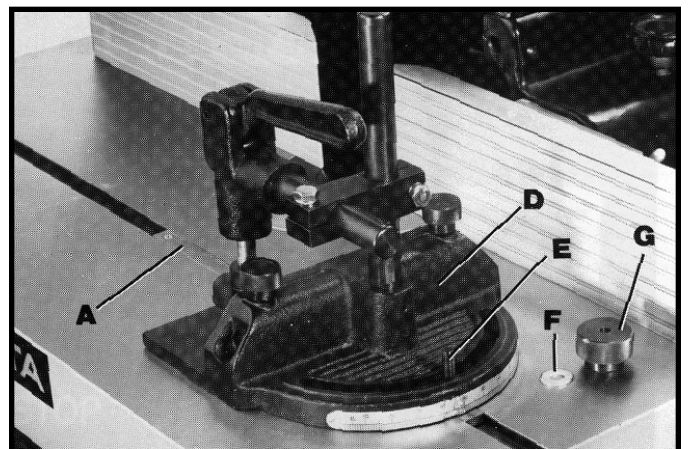

Fig. 46
2. Figure 46 illustrates the miter gage bar (A) in the table slot. Place the miter gage (D) on the bar with stud (E) of bar protruding up through opening in miter gage body as shown. Fasten in place using washer (F) and lock knob (G).